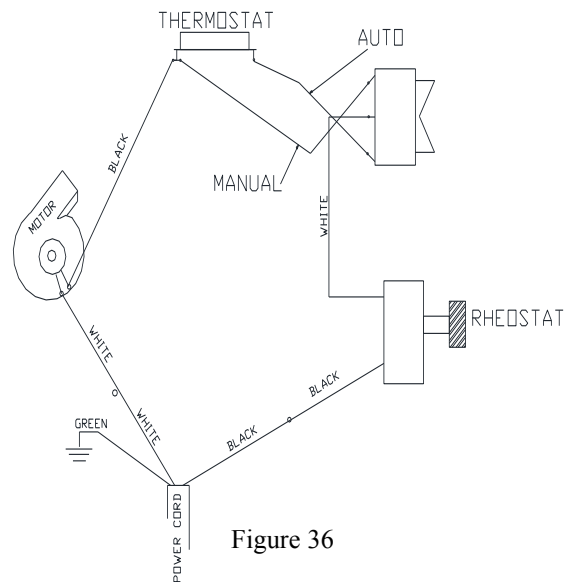

Figure 36
- Hook up wiring to all components, if you have replaced or unhooked them to rewire motor, rheostat or switch. If you need to see wiring diagram See Page 42, Figure 36. If rheostat was removed, replace rheostat with the nut and replace control knob, reconnect wires to switch.
- Mark and unhook wires. Gently push thermostat up and out of thermostat bracket and replace with new thermostat. Reinstall wiring and cover screen. See Figure 35. If you need to see wiring diagram See Page 37, Figure 36. Plug heater back into a 115V AC outlet.
- Mark and unhook wires. Bottom under hearth is rheostat. Remove control knob and nut and replace with new rheostat installing with nut, then control knob. Reinstall wiring and cover screen. See Figure 35. If you need to see wiring diagram See Page 37, Figure 36. Plug heater back into a 115V AC outlet.